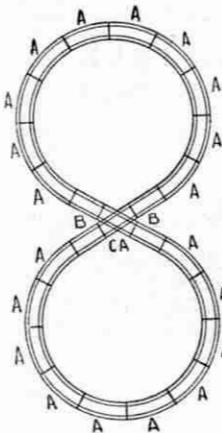

Fig. 8
Now let us suppose that we have become tired of a simple circle or oval track and are considering methods of developing our layout. Perhaps the simplest scheme is that shown in Fig. 8. Here the only new element is the Acute-angle Crossing (CA), but its use certainly produces a layout of much greater interest. Using the 2 ft. radius rails, 20 Curved Rails (A2) and 4 Straight Rails (B1) are required, in addition to the Acute-angle Crossing (CA). With 1 ft. radius rails, 10 Curved Rails (A1) and 4 Straight Quarter Rails (B₁) are needed. The four Quarter Rails occupy the same position as the four Straight Rails (B) in the diagram.